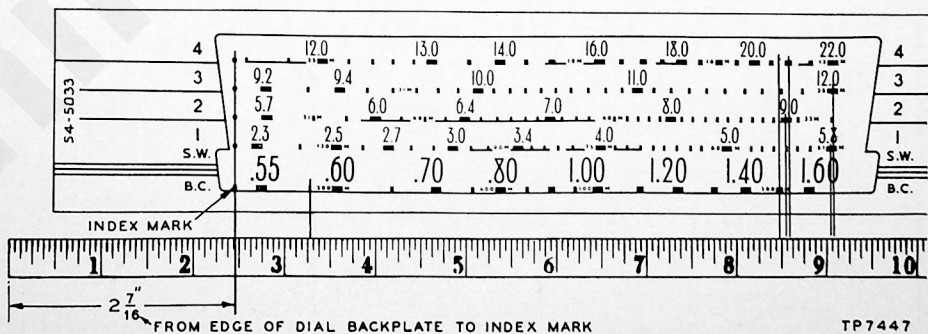

Figure 1. Dial-Calibration Measurements
DIAL POINTER—With the tuning condenser fully meshed, adjust the dial pointer to coincide with the index mark just to the left of "55" (BC). See figure 1.